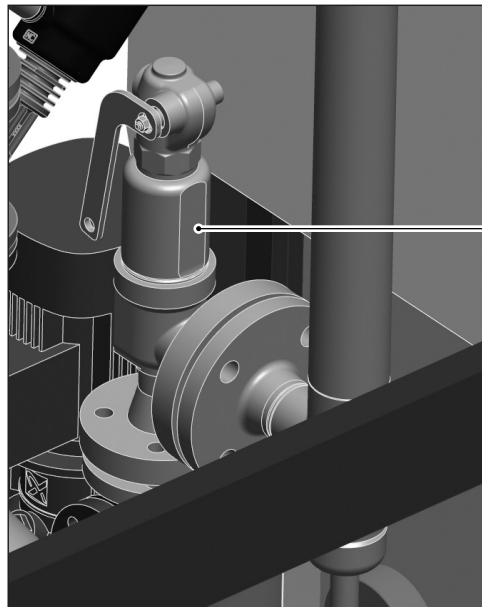

Fig. 20
5.4.8 Pressure safety valve (generator) - Figure 20